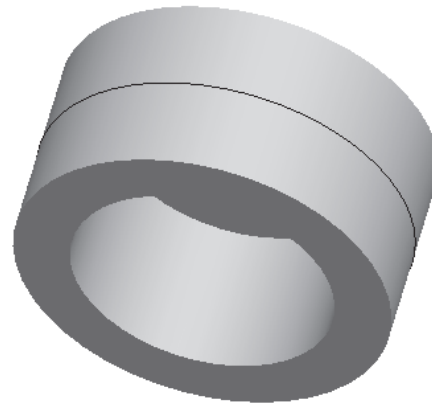

Figure 8-48 Datum curve created on the circumferential surface of the cylindrical feature
5. Choose the **Build feature** button from the dashboard to exit the feature creation tool. The datum curve is created on the circumferential surface of the cylinder, as shown in Figure 8-48.